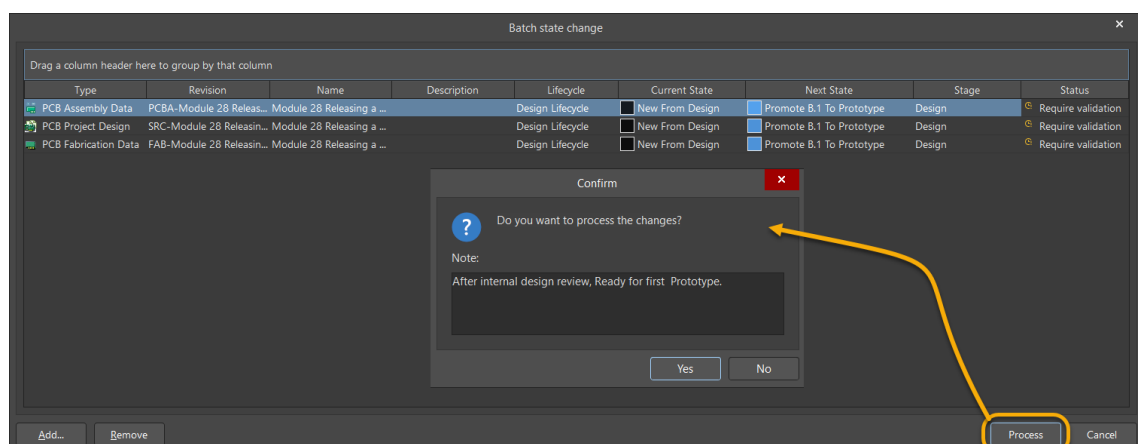

Figure 14. Confirm Change of Lifecycle state
43. Select **Process**, add a Confirm Information and select **Yes** to change the lifecycle, Figure 14.